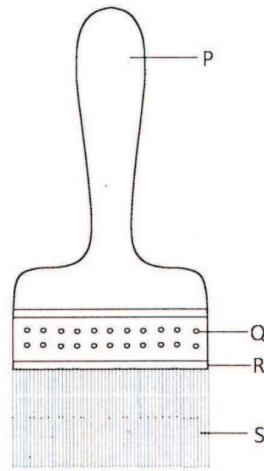

Figure 7
- (b) **Figure 7** shows a paint brush.